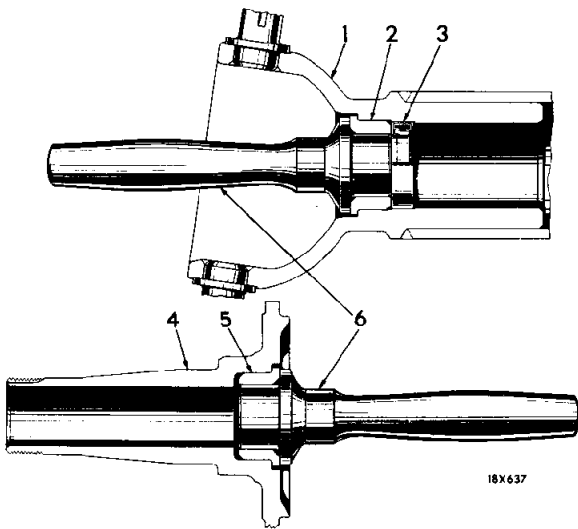

Fig. 39 — Installing Oil Seal and Bushing — Tool DD-843
- (1) Install the front axle drive shaft oil seal and bushings in the housing. The oil seal should always be replaced whenever the axle is disassembled. The bushings should be replaced if they show signs of wear. Drive the oil seal and bushings into the housing, as shown in Figure 39. Make certain the oil seal is installed with the lip or edge of the leather towards the differential.